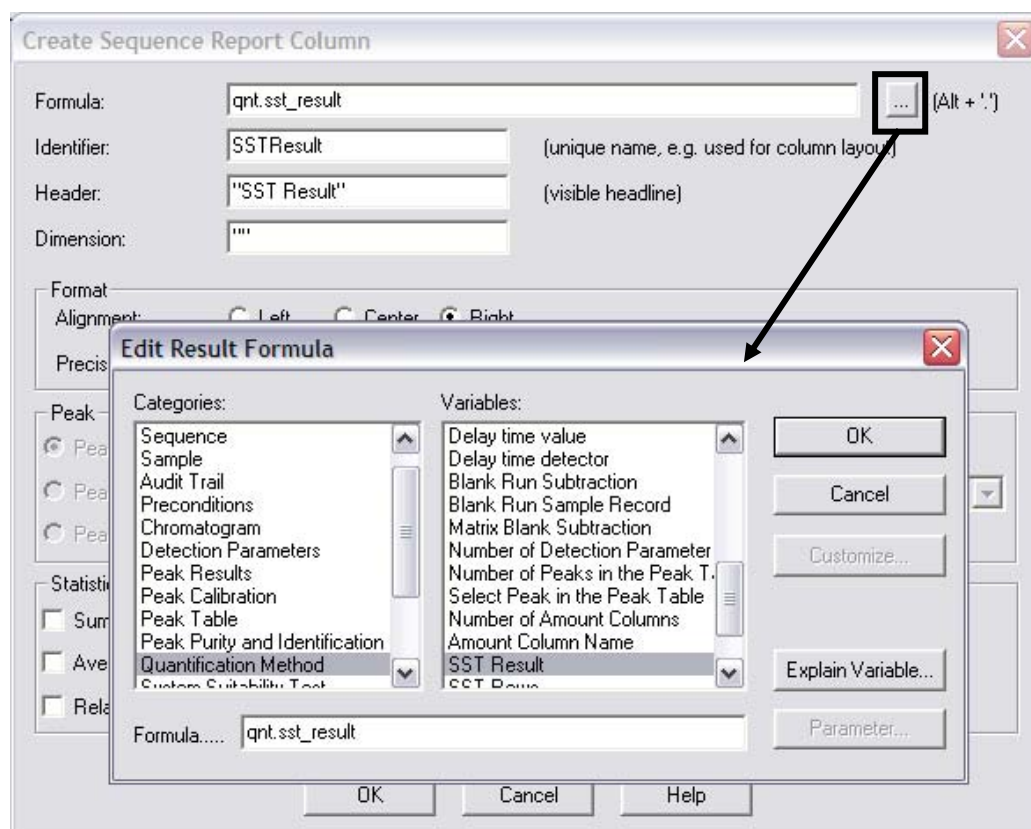

FIGURE 3-23: Report column for the sequence.
3. Select **SST result** in the **Variables** section (FIGURE 3-23).